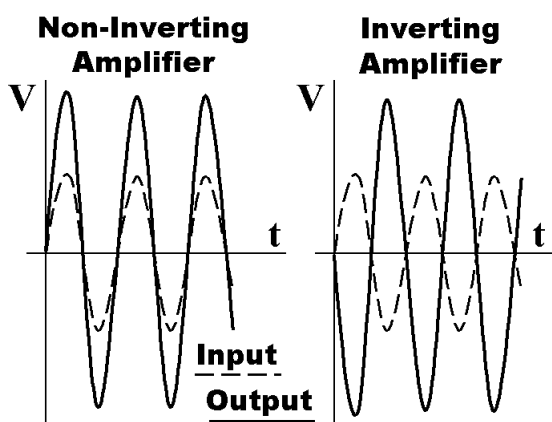

Figure 4-4. Input and output voltages of noninverting and inverting amplifiers.
- Inverting, in which the output signal has opposite sign, as sketched in Figure 4-4.